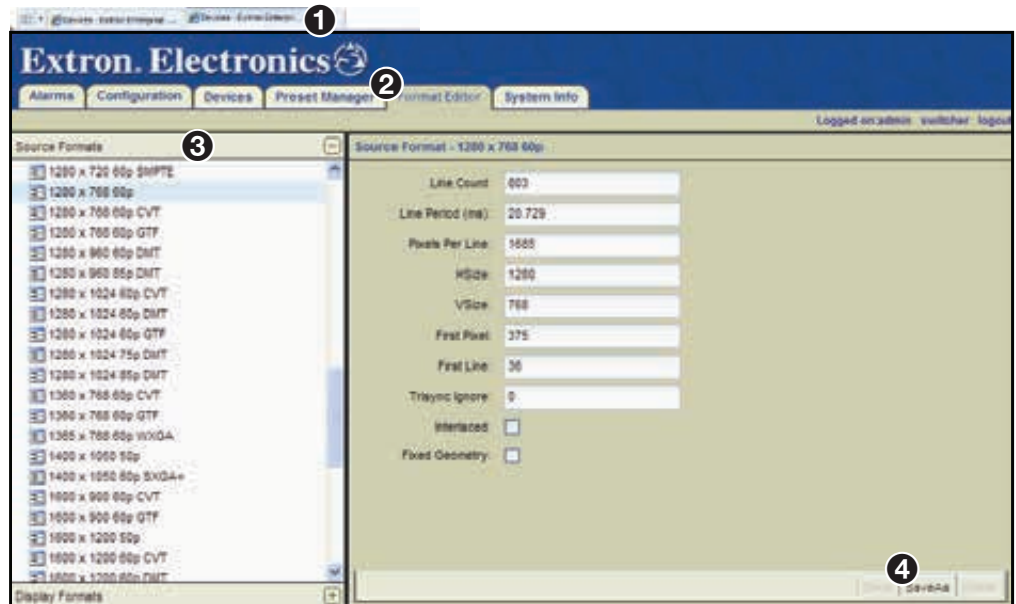

Figure 127. Source Format Editor Page (VN-Matrix 2xx Only)
11. Use the **Color Space** drop-down list to select the option that matches the connected source (❸).
12. Select **manual** from the **Blanking** drop-down list (❹).
13. Enter **0** in the **Pixels** field (❺).
14. Enter **0** in the **Lines** field (❻).
15. Using the right tab (see figure 127, ❶ on the next page), select the **Format Editor** tab (❷).
16. Select an input mode from the list of source formats (❸).
17. Click **SaveAs** (see figure 127, 4), to save the resolution.